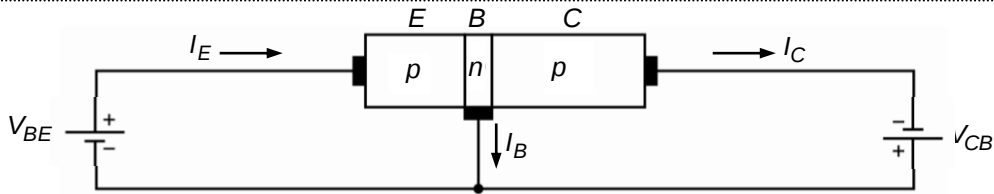

Fig. 3.21: A p - n - p transistor biased for amplifier operation with its emitter-base junction forward biased and collector-base junction reverse biased.
3. Fig. 3.21 shows a p - n - p transistor biased for amplifier operation along with the currents that flow in it. Its working is analogous to that of an n - p - n transistor and is described below. Note from Fig. 3.21 that in a p - n - p transistor too, the emitter-base p - n junction is forward biased while the collector-base p - n junction is reverse biased for its normal operation as an amplifier.